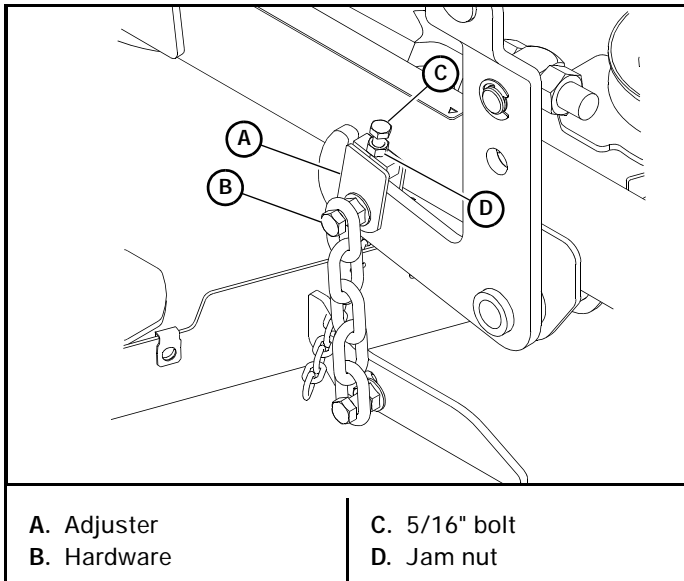

Figure 6-6
15. Loosen the 5/16" jam nut on the adjuster lift chain, and back the adjuster bolt out to allow the adjuster to move up and down freely. Figure 6-6
16. Tighten the adjuster bolt until the chain just becomes tight. Then tighten just enough to carry the weight of the front of the deck on that side—to check, move the blocks back and forth; they should move with a slight drag. Figure 6-6
17. Tighten the adjuster bolt jam nut to prevent the adjuster bolt from moving. Figure 6-6
18. Tighten the hardware holding the chain and adjuster onto the deck lift arm. Figure 6-6